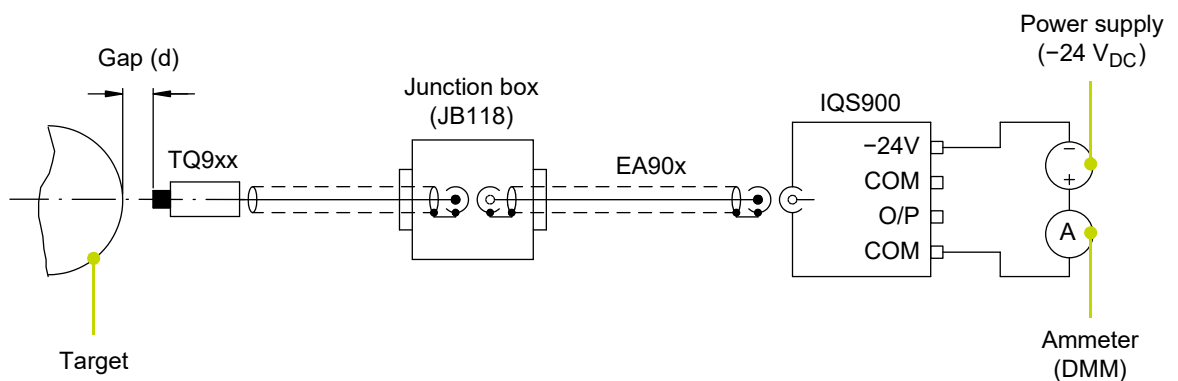

Figure 6-4: Characterisation for systems using current (2-wire) signal transmission
- 1- Connect a -24 V_{DC} power supply between the “-24V” and “COM” terminals of the IQS900 signal conditioner (see Figure 6-4).
- 2- Connect an ammeter (DMM) in series with the power supply (see Figure 6-4).